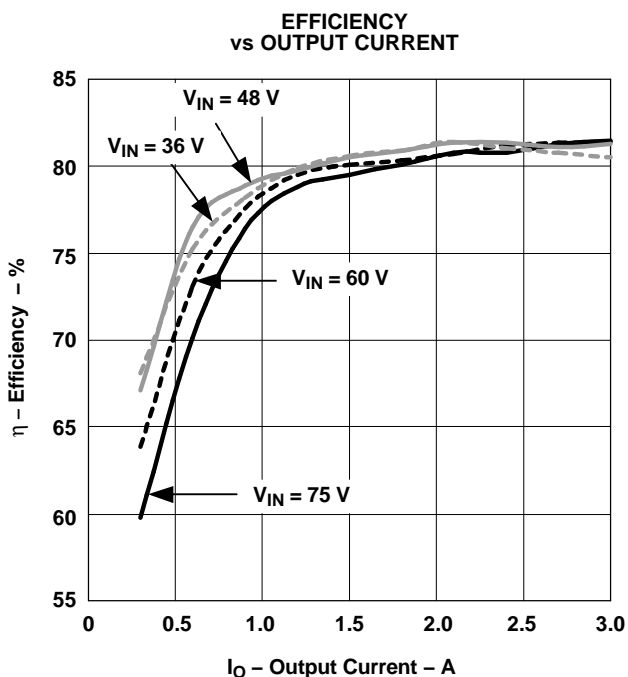
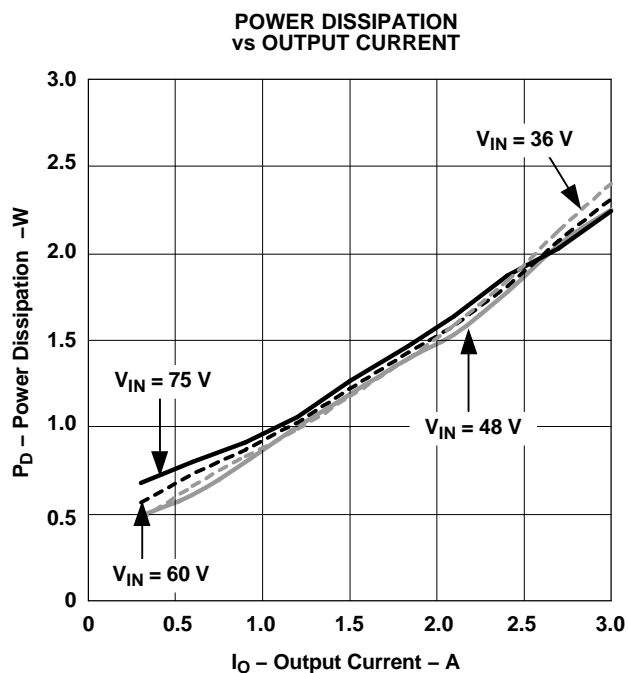
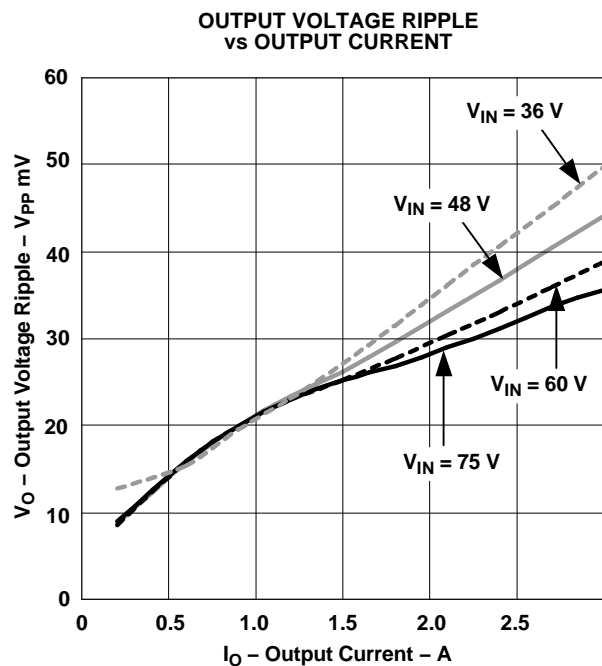

Figure 1.
Figure 2.
Figure 3.
- (1) All data listed in Figure 1, Figure 2, and Figure 3 have been developed from actual products tested at 25°C. This data is considered typical data for the dc-dc converter.